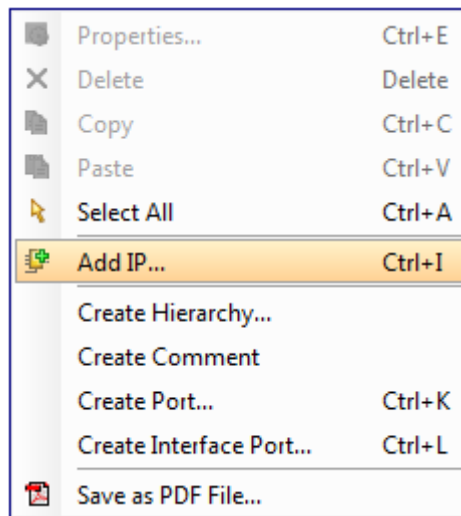

Figure 2.6: Add IP option
- (c) In the *Vivado IP Integrator Diagram* canvas, right-click anywhere and select **Add IP**, as in Figure 2.6.